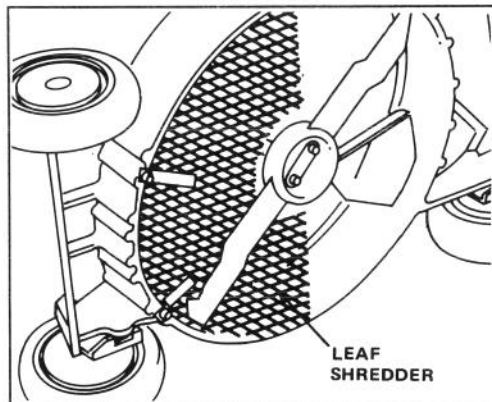

Figure 33
3. Leaf Shredder Kit, Model No. 59180 — Installs on underside of mower in minutes without requiring removal of blade. Shreds leaves into small pieces for clean vacuuming into grass bag and convenient disposal (Fig. 33).